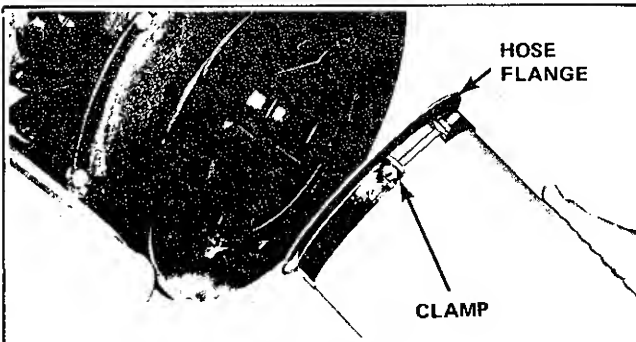

FIGURE 12
1. Install the mounting flange and clamp on the plain end of the hose. Tighten the clamp screw securely. (Figure 12).
3. Attach the flanged end of the roving nozzle to the blower housing, seating the flange fully in the notches. (Figure 12).